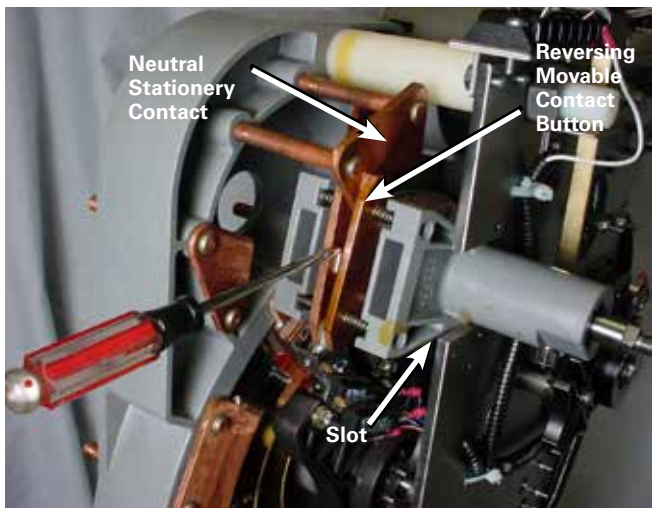

Figure 65. Reassembly of neutral stationary and reversing movable.
2. Insert a standard flat screwdriver between the middle and top button contacts on the reversing movable contact assembly and twist to separate. Line up the movable and stationary contacts and rotate the movable contact assembly clockwise over the reversing stationary contact. See Figure 65.